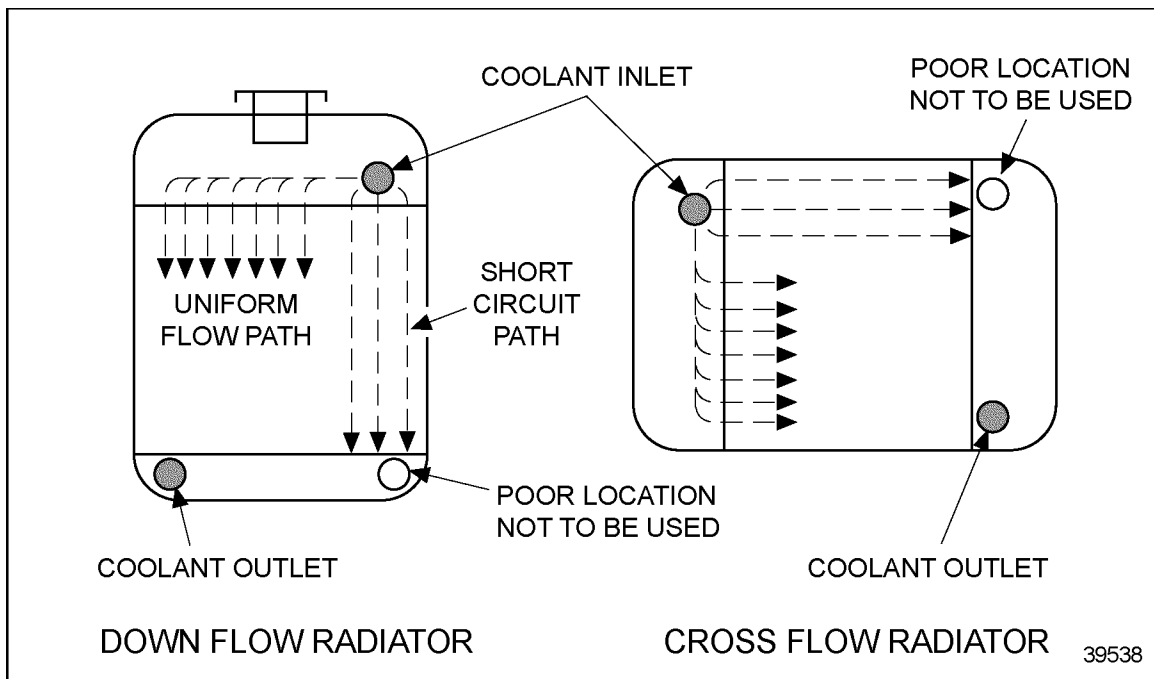

Figure 7-15 Coolant Inlet/Outlet Locations
- ☐ Locate the coolant opening diagonally opposite the inlet tank opening or as far away as is practical. This provides uniform distribution of the coolant across the core and prevents short circuiting; see Figure 7-15.